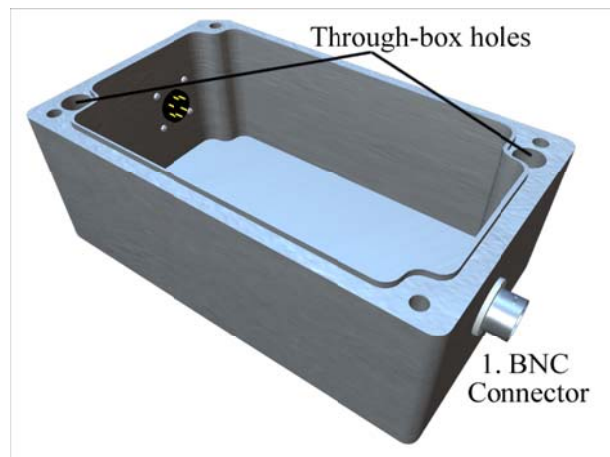

Figure 2-1: Enclosure & BNC Connector
1. A BNC connector (Figure 2-1) is used to attach the wave probe head coax cable to the AWP-24 electronics.